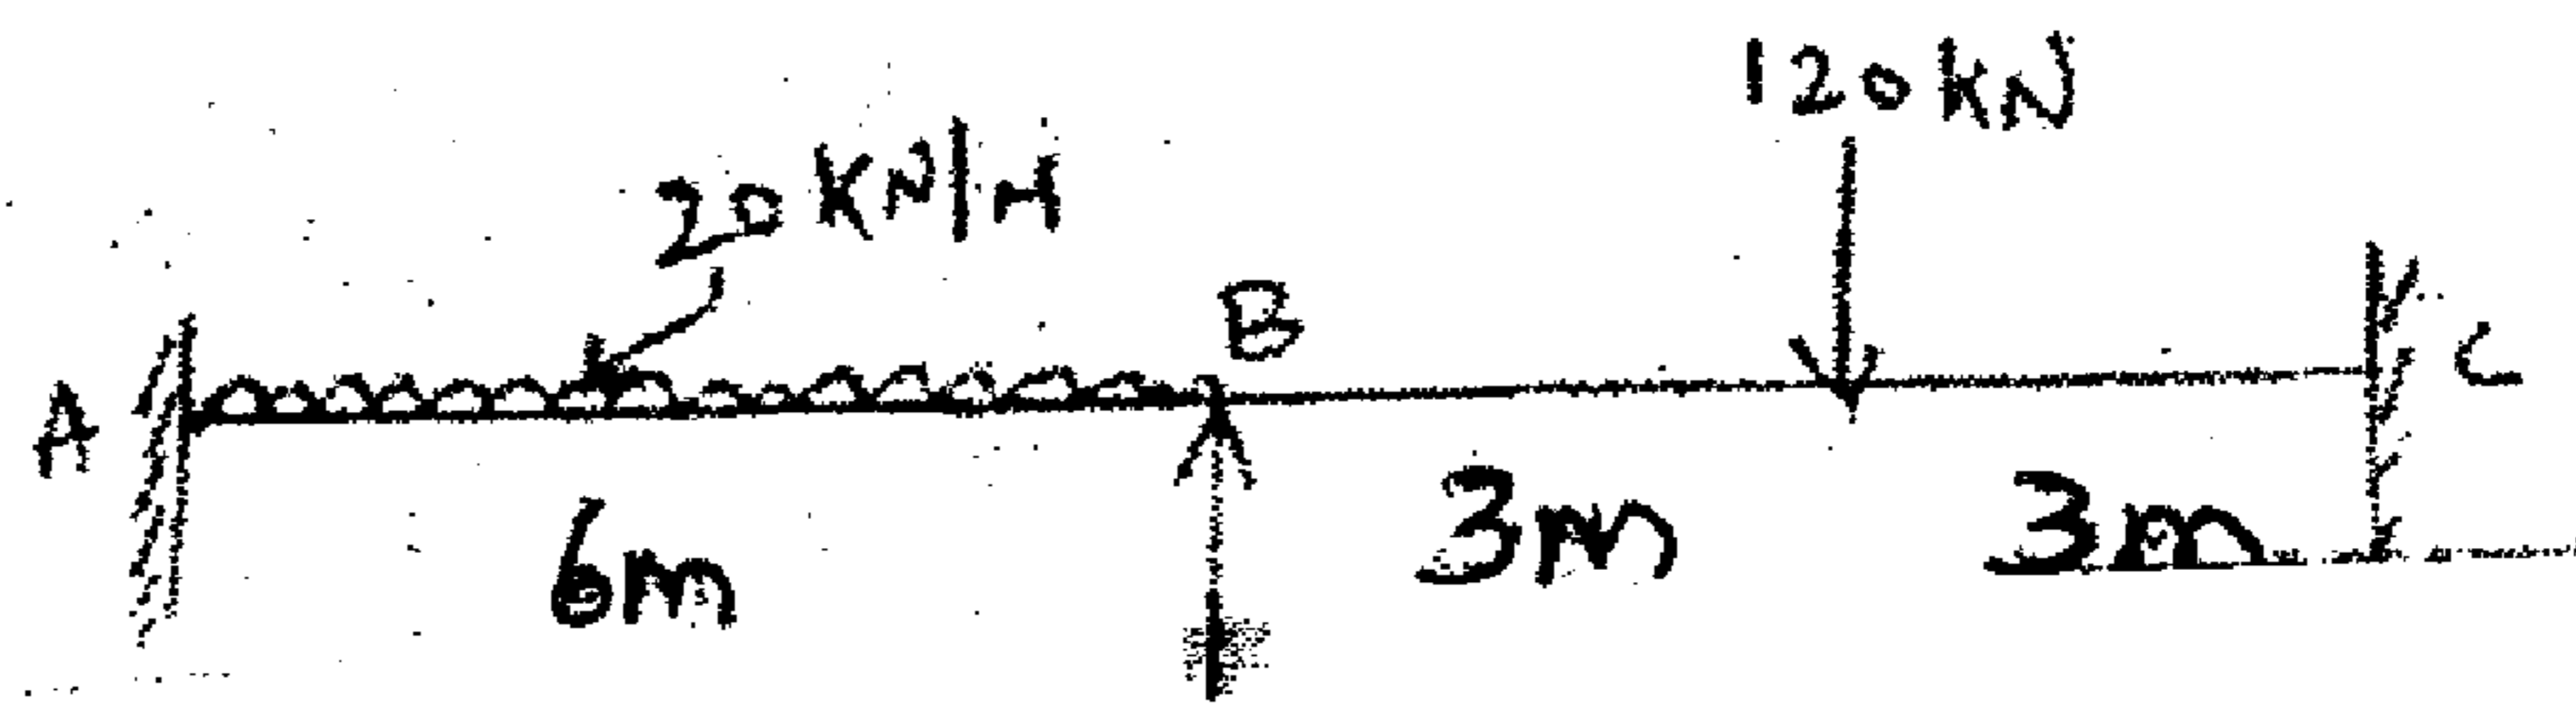

Fig.Q.5
- 5 a. Analyse the beam shown in Fig.Q.5 by Kani's method. Assume uniform flexural rigidity. Draw bending moment diagram, shear force diagram and elastic curve. (20 Marks)
- 6 a. Analyse the Pin – jointed plane truss shown in Fig.Q.(6) by flexibility matrix method. The numbers given in the paranthesis are the cross sectional area of members in MM^2 . (20 Marks)